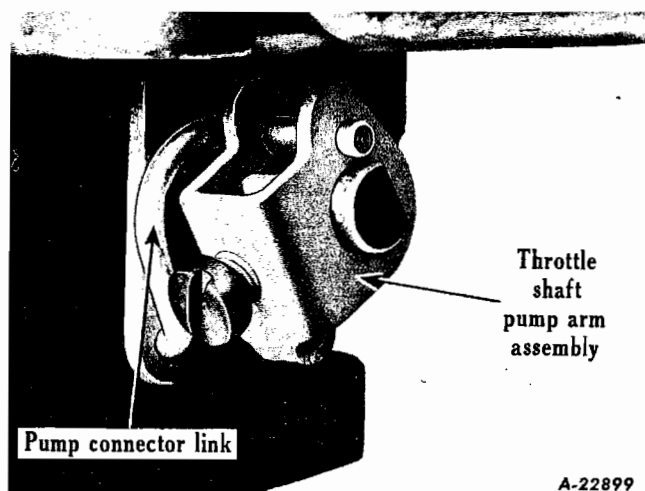

Fig. 7
5. Remove throttle shaft arm assembly, pump connector link, shaft seal spring, dust seal washer, and felt dust seal (Fig. 7).